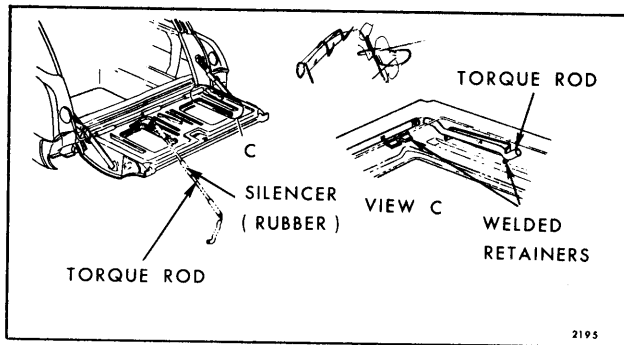

Fig. 9-20—Tail Gate Torque Rod Assembly
3. Disengage torque rod from welded retainers. The retainer is located on the right side on "B" styles and on the left side on "A" styles. (See Fig. 9-20).
4. Remove torque rod silencer (rubber) from torque rod, and work torque rod out through glass loading hole (See Fig. 9-20).